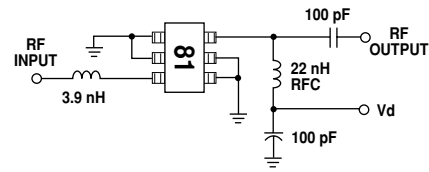
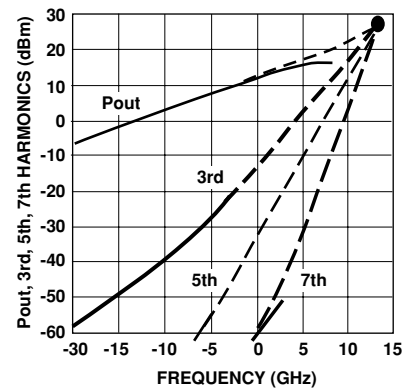

Figure 10. Test Circuit.
Figure 19. Intermodulation Products vs. Input Power. ($V_d = 3.0$ V)
1. Guaranteed specifications are 100% tested in the circuit in Figure 10 in the Applications Information section.
The circuit shown in Figure 10 is used for 100% RF testing of Noise Figure and Gain. The 3.9 nH inductor at the input fix-tunes the circuit to 2 GHz. The only purpose of the RFC at the output is to apply DC bias to the device under test. Tests in this circuit are used to guarantee the NF_{test} and G_{test} parameters shown in the table of Electrical Specifications.
Like other active devices, the intermodulation products of the MGA-81563 increase as the device is driven further into nonlinear operation. The 3rd, 5th, and 7th order intermodulation products of the MGA-81563 are shown in Figure 19 along with the fundamental response. This data was measured in the test circuit in Figure 10.